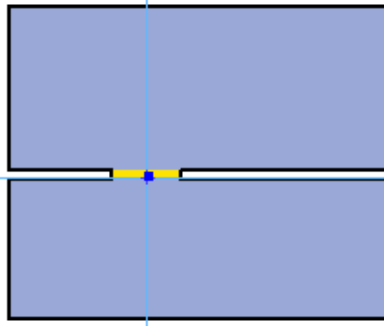

Figure 93. Click inside the gap
3. Once the appropriate parameters have been entered, move the cursor over the desired doorway (Figure 93). A door preview will be displayed. If it doesn't, adjust the search parameters in the property panel and try again.